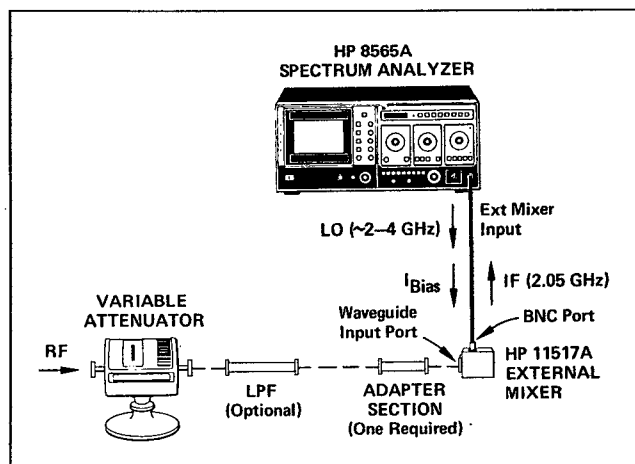

Figure 1. Harmonic mixing set-up.
Using the set-up shown in Figure 1, with the spectrum analyzer switched into one of its external mixer bands and an input signal (RF) applied to the mixer, three signals are present at the analyzer's external mixer BNC port: the analyzer's local oscillator (LO), the intermediate frequency (IF), and the external mixer bias (I_{BIAS}).
1. INITIALIZE ANALYZER CONTROLS: Use the set-up in Figure 1, the desired external mixer frequency band, a wide resolution bandwidth (≥ 300 kHz), and a wide frequency span (≥ 200 MHz/DIV).